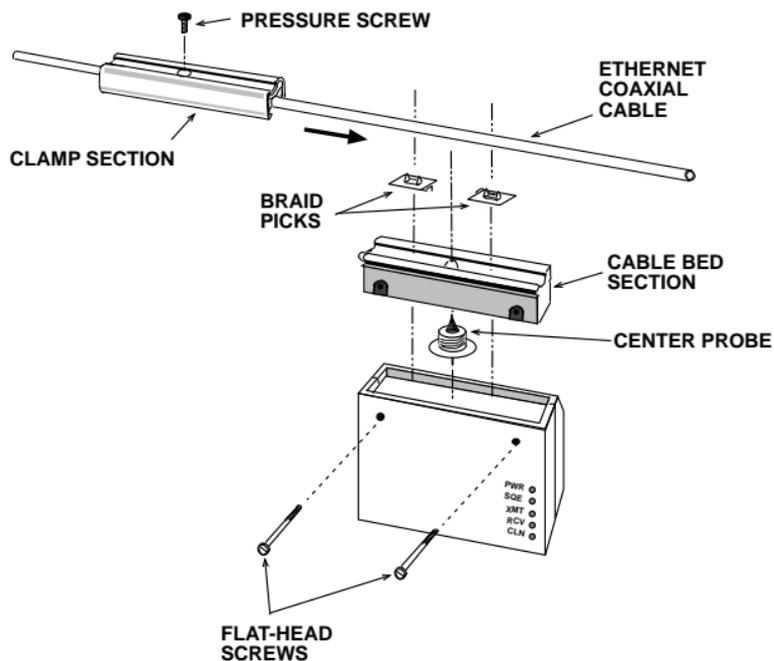

Figure 2-2. Non-Intrusive Tap Kit
1. Open the 1K-TAP-01, Installation Kit (Figure 2-2) and check that it contains the following:
- Braid picks (2)